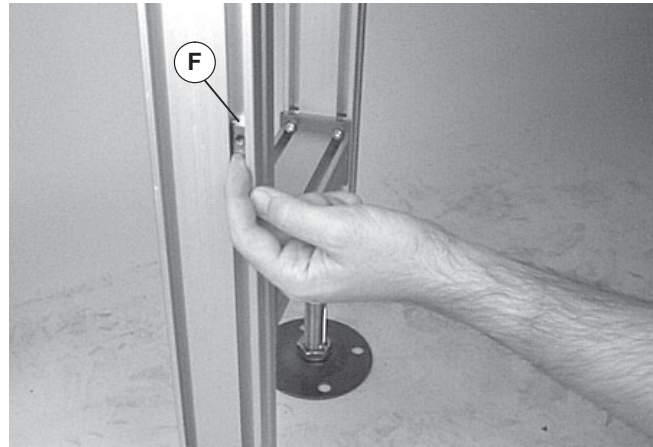

Figure 11
2. Install T-bar (Figure 11, item F) in T-slot.